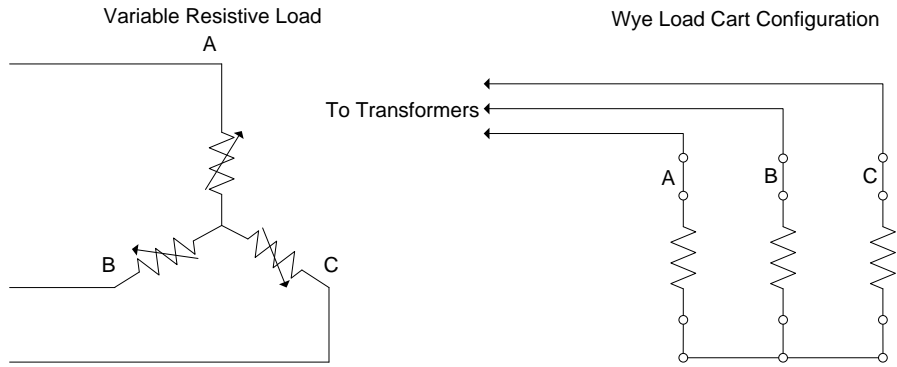
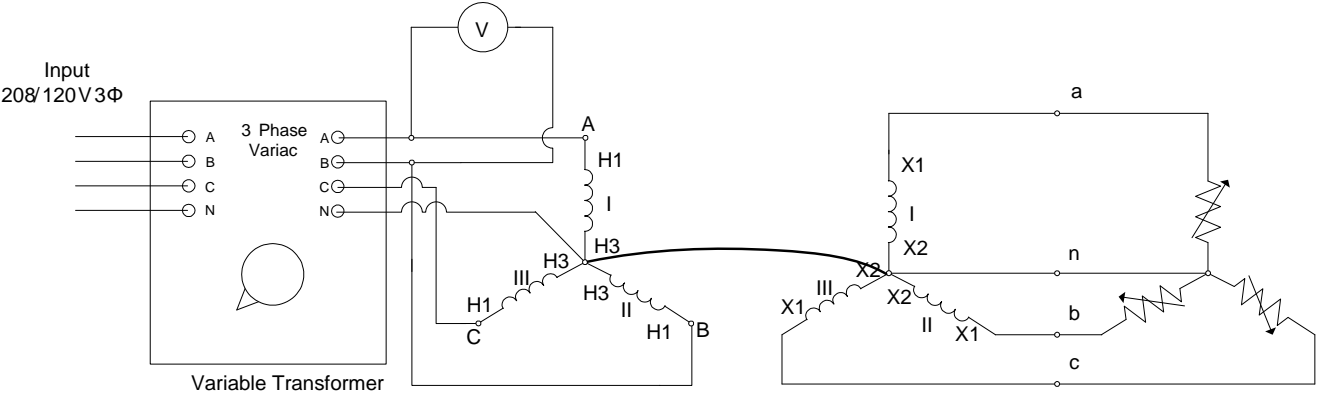

Figure 1- Load Cart Configuration
Figure 2- Wye-Wye Connection
1. Connect the load cart as seen in Figure 1, the load will remain in this connection throughout the lab. Connect the three, single-phase transformers as shown in Figure 2. **Have the Instructor check your circuit.**